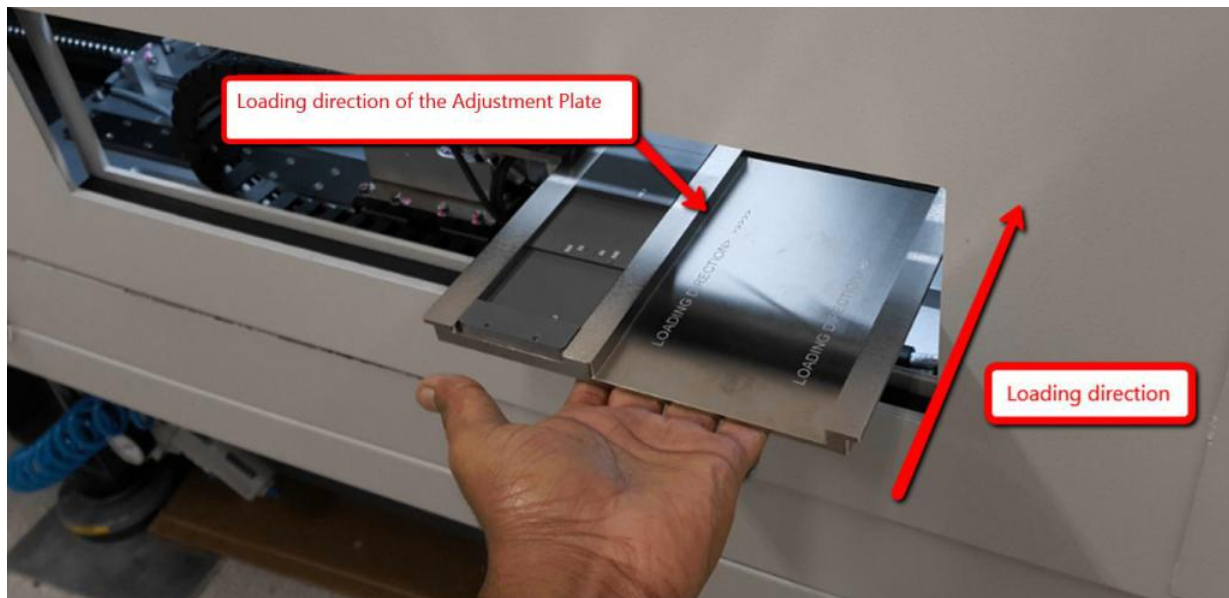

Figure 19 Jig loading
16. Insert the jig once the left outer barrier open as shown in the Figure 19. Once the test is finished, the outer barrier will open. Remove the jig as shown in the Figure 20.